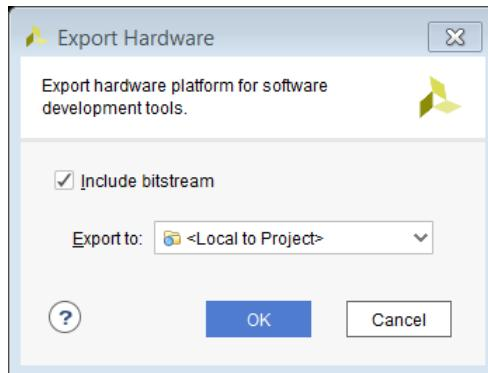

Figure 107: Export to Hardware Dialog Box
5. Verify that all timing constraints have been met by looking at the Timing - Timing Summary window, as shown in Figure 107.